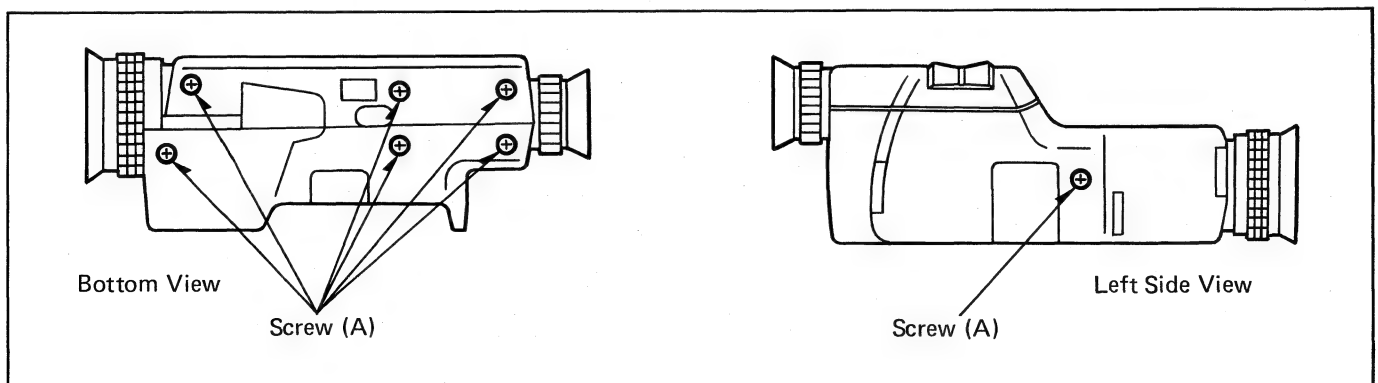

Fig. 1
- Unscrew 7 screws (A) and disconnect 3 connectors (P304, P610, (A)) (see Fig. 1).